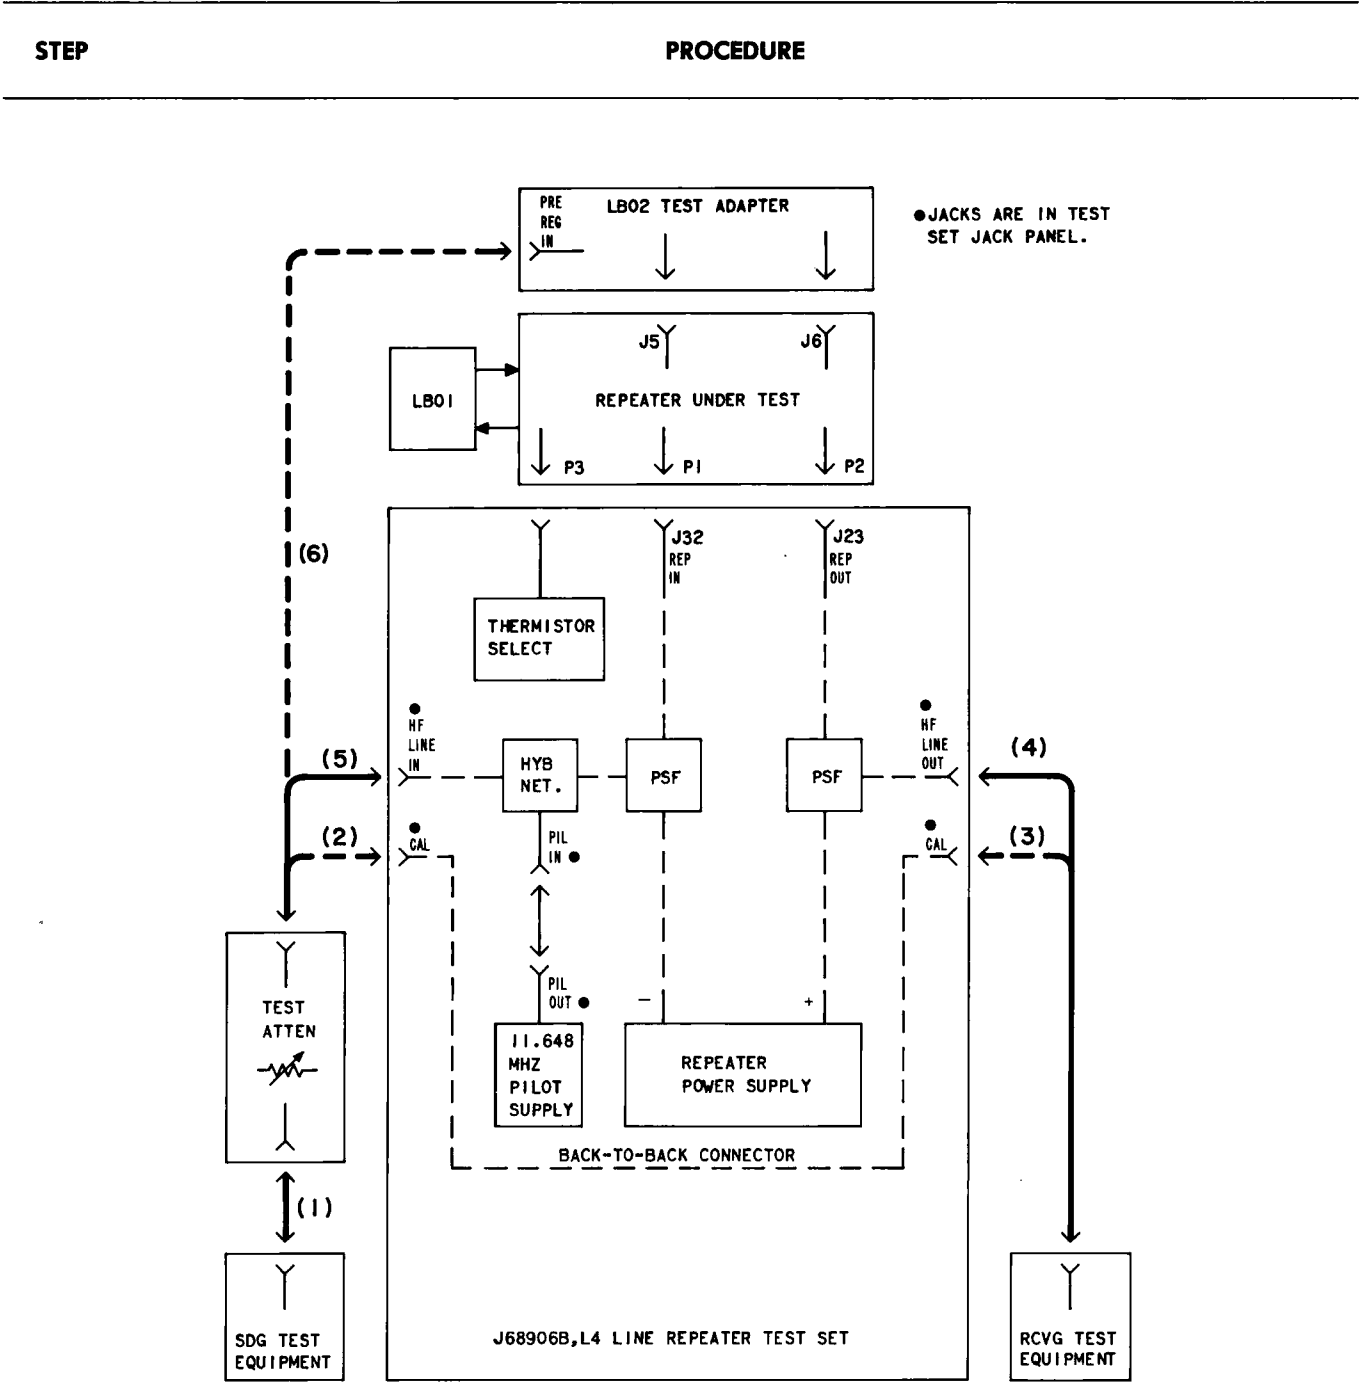

Fig. 3—Test Arrangements Using L4 Line Repeater Test Set
are shown in Fig. 3. For transmission measurements, sending and receiving test equipment normally provided at the L4 main station is used.
13	Patch the STE (sending test equipment) through the attenuator to the CAL jack associated with the HF LINE IN jack [patches (1) and (2), Fig. 3].
16	Patch the RTE to the CAL jack associated with the HF LINE OUT jack [patch (3), Fig. 3].
19	Transfer the RTE to the HF LINE OUT jack [patch (4), Fig. 3] and transfer the attenuator output to the HF LINE IN jack [patch (5), Fig. 3].
29	Patch the STE through the attenuator to the CAL jack associated with the HF LINE IN jack [patches (1) and (2), Fig. 3].
32	Patch the RTE to the CAL jack associated with the HF LINE OUT jack [patch (3), Fig. 3].
34	Patch the RTE to the HF LINE OUT jack [patch (4), Fig. 3].
36	Transfer the patch from the CAL jack associated with HF LINE IN jack to the PRE REG IN jack on the LBO2 test adapter [patch (6), Fig. 3].